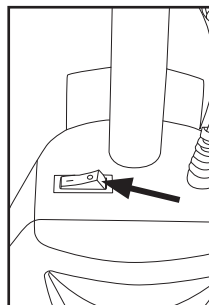

Fig. 5
1. To turn the vacuum on, push the switch located on the dust compartment to the ( I ) position (Fig. 5).